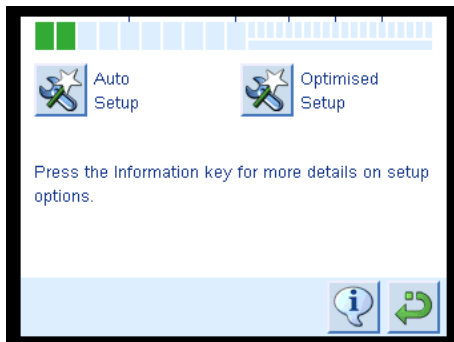

Figure 216:
Press the **Auto Setup** key to display the Setup options. Figure 216 appears.
1. Press the **Auto Setup** key as seen in Figure 216. Figure 217 appears.
1. Press the **Optimised Setup** key as seen in Figure 216. Figure 218 appears.